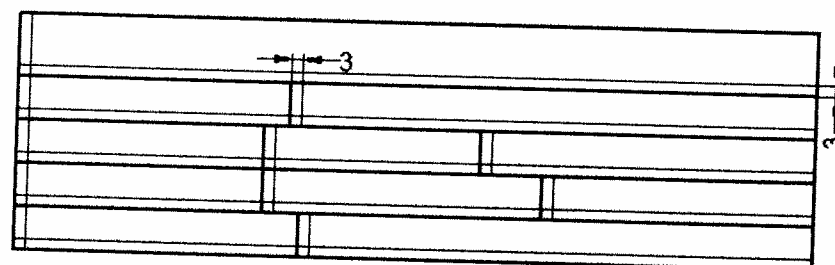

Figure 6-5b
- Use the *Offset* command to create the thin lines shown in Figure 6-5b. The thin lines are created to locate the attributes.